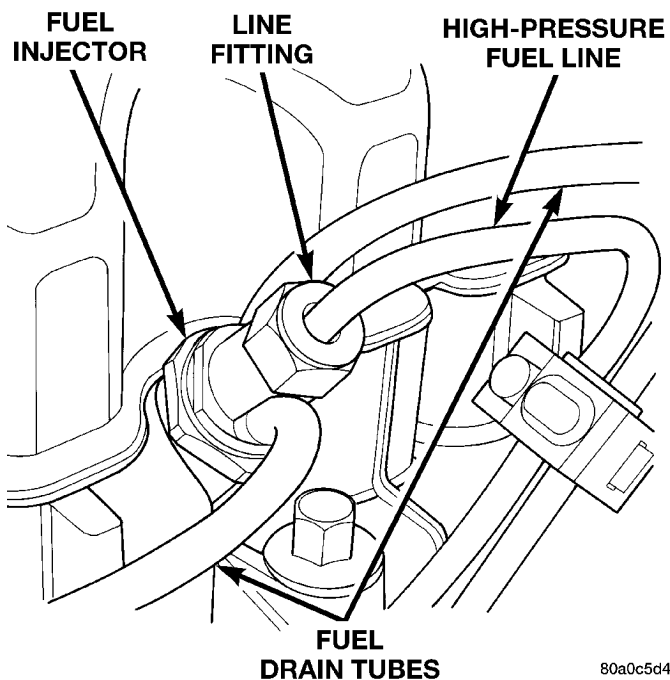

Fig. 49 Fuel Lines at Fuel Injectors
(3) Clean the area around each fuel line connection. Disconnect each line at the top of each fuel injector (Fig. 49).